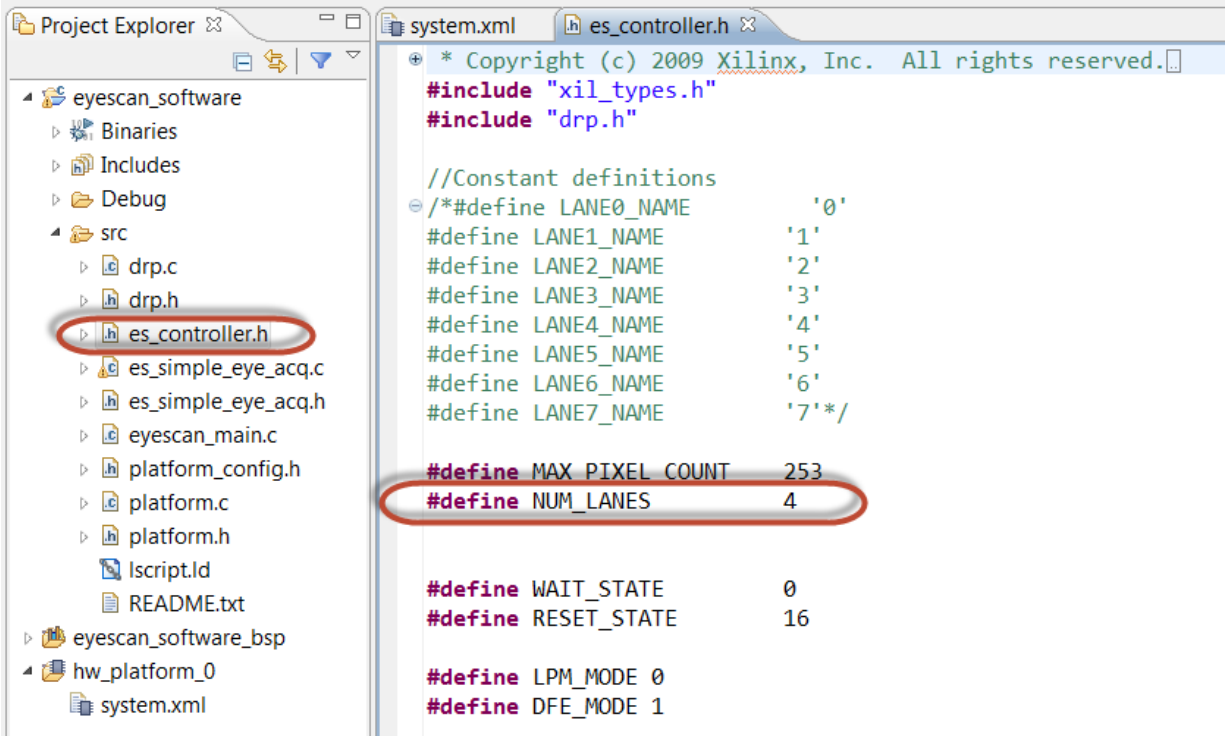

Figure 18: Modifying `es_controller.h` for Different Lane Widths
11. Locate the `es_controller.h` file and change `NUM_LANES` to the appropriate number of lanes. Save the changes and recompile to create a new ELF file in the `Debug` directory shown in Figure 18.